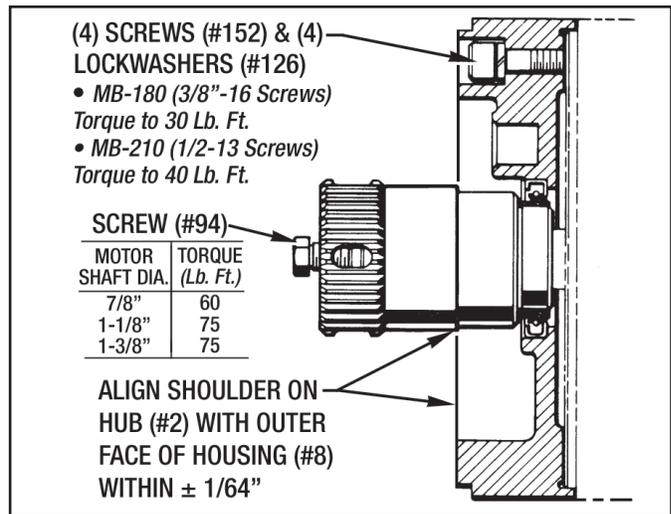

Figure 3 - Hub Alignment
3. Thread the (4) Soc. Hd. Cap Screws (#152) and Lockwashers (#126) into the tapped holes on the motor flange face (See Figure 3). Torque 3/8"-16 soc. hd. cap screws to **30 lb. ft.** or 1/2"-13 soc. hd. cap screws to **40 lb. ft.**
1. Tap the hub lightly to align the proper shoulder of the hub with the housing face. This alignment should be within plus or minus 1/64" (See Figure 3).
2. After the Hub has been properly positioned, tightened the Hex Hd Cap Screw (#94) to specified torque. (See Figure 3).